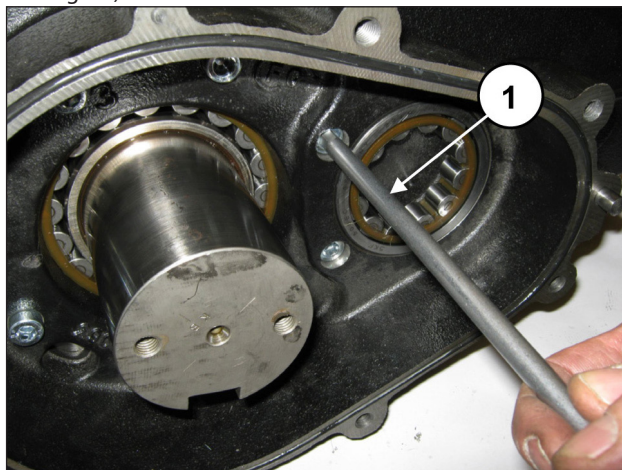
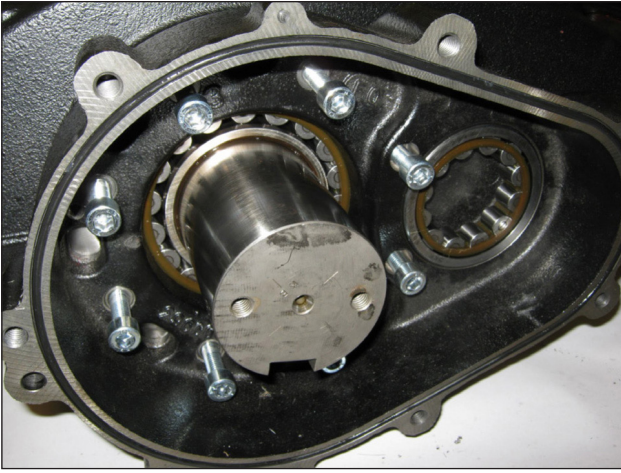

Fig. 21
Fig. 22
Unscrew the reduction gear box fixing screws (pos. ①, Fig. 21 and Fig. 22).